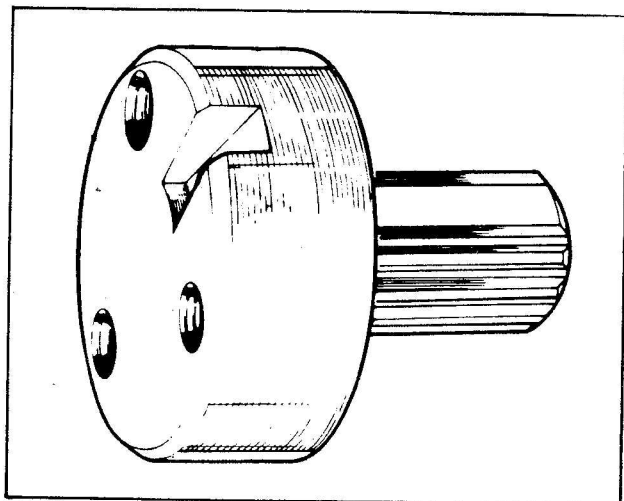
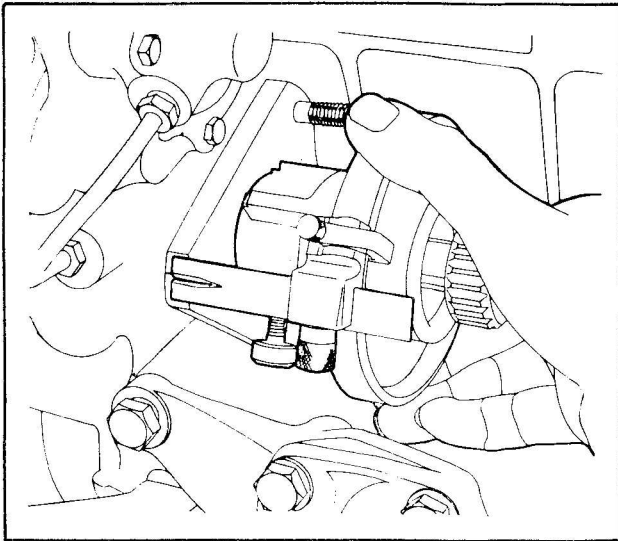

Fig. 15
Fig. 17
3. Using fuel pump timing tool MS.67B (see Fig. 15), release screw (5) and position splined shaft (6) in tool so that relevant spline is to front of tool.
2. Fit adaptor PD.76B-1 (see Fig. 15) to fuel pump gear so that the dowel of gear locates in slot of adaptor and shaft of adaptor is towards rear of engine. Secure adaptor to gear using setscrews.
3. Release screw (5) of timing tool MS.67B (see Fig. 15) and remove splined shaft.
4. Ensure slotted pointer (2) of timing tool is positioned with slot to front of tool and chamfered sides of slot outwards. At this stage, slotted end of pointer should be kept well back from front of body. Ensure that flat of washer fitted behind pointer securing screw (3) is located over pointer.
2. Release screw (6) of timing tool MS.67B (see Fig. 15) and position splined shaft (6) in tool so that relevant spline is to front of tool.
3. Ensure that slotted pointer (2) is positioned with slot to front of tool and chamfered sides of slot outwards. At this stage, slotted end of pointer should be kept well back from front of body. Ensure that flat in washer fitted behind the pointer securing screw (3) is located over pointer.
4. Release bracket screw (4) and set bracket so the chamfered edge is in line with the relevant engine checking angle.
7. Turn timing tool by hand in opposite direction to pump rotation (shown on pump nameplate) to take up backlash and mark scribed line on adaptor plate to coincide with centre of slot in pointer (see Fig. 17).